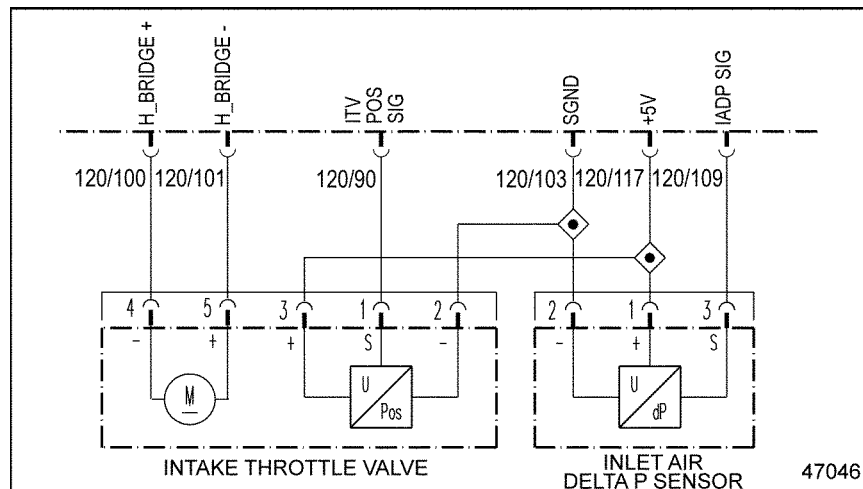

Figure 15-2
2. Measure the resistance across pins 1 and 3 of the EGR Delta P Sensor. See Figure 15-2.